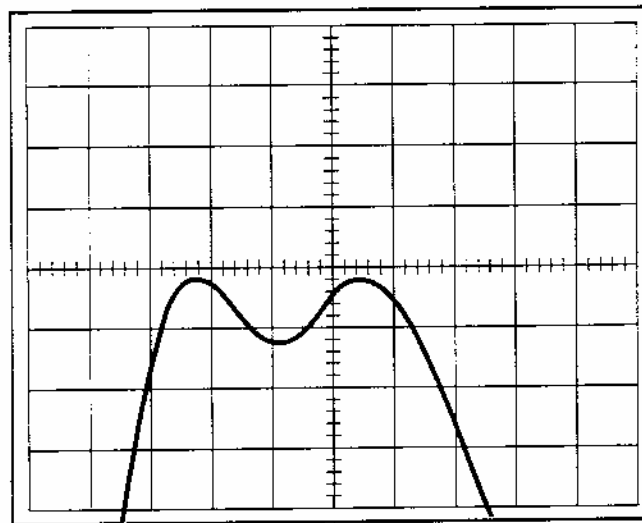

Figure 6 - R138 & R139 Adjustment
4. Finally, adjust trimpots R138 and R139 to bring both peaks to the *same* level, just a bit below the centerline, as shown in Figure 6.